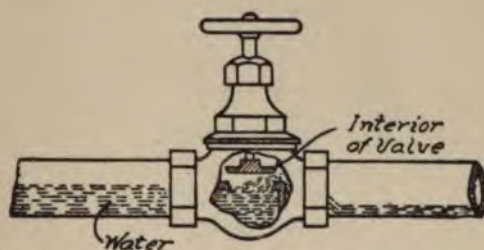

Fig. 82.—Globe Valve on Horizontal Pipe—Imperfect Drainage.
A. When it is necessary to use a valve of this character on a horizontal pipe it should be placed with the stem in a horizontal position or pitching slightly downward; otherwise, owing to the interior construction of the valve, it will be impossible to obtain perfect drainage through the pipe. Fig. 82 illustrates this feature.